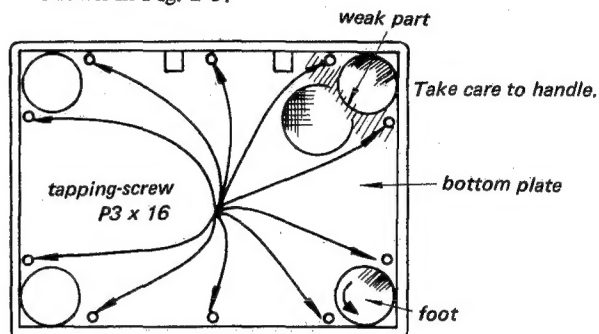

Fig. 2-3
4. Remove four feet and ten tapping-screws as shown in Fig. 2-3.